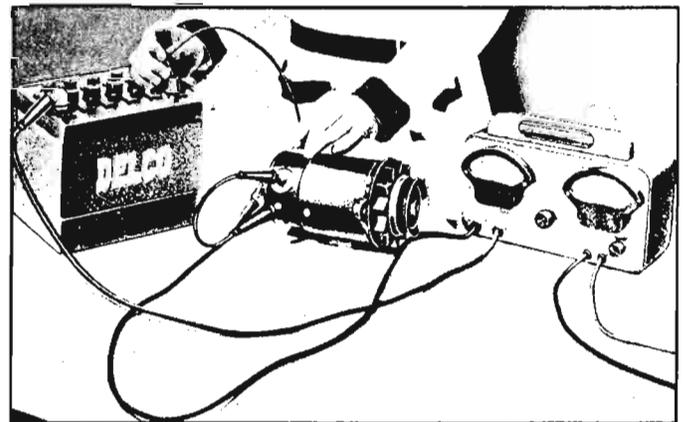

Fig. 8-28—Motoring the Generator
7. Motor the generator (fig. 8-28) as follows: Ground the field terminal to the generator frame and connect the generator armature terminal to the positive post of a 12 volt battery with an ammeter in the circuit. Connect the negative battery terminal to the generator frame. The generator should run as a motor with a current draw as shown in Section 12 — Specifications. Failure to meet these specifications is generally the result of tight bearings or a bent armature shaft.